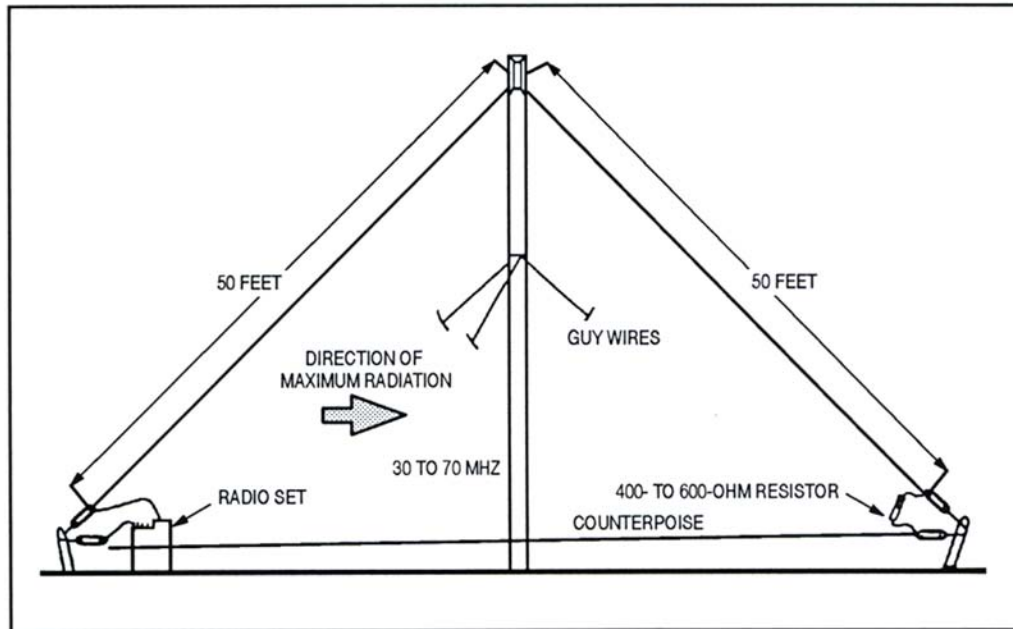

Figure 2. Half-Rhombic Antenna With Counterpoise
- c. Separate legs and equal distance on azimuth to distant station. (Refer to Figure 2.)